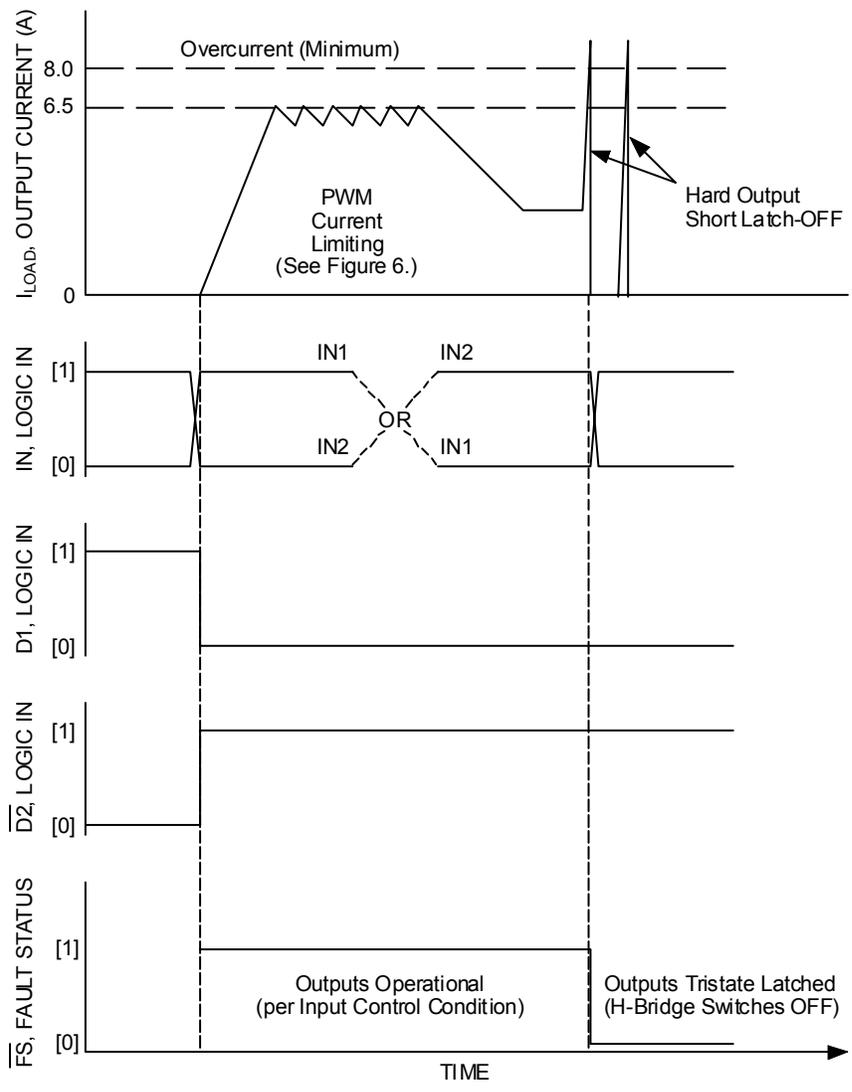
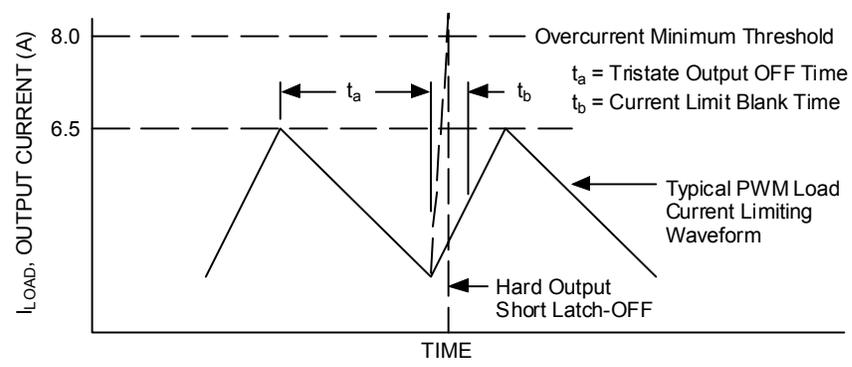
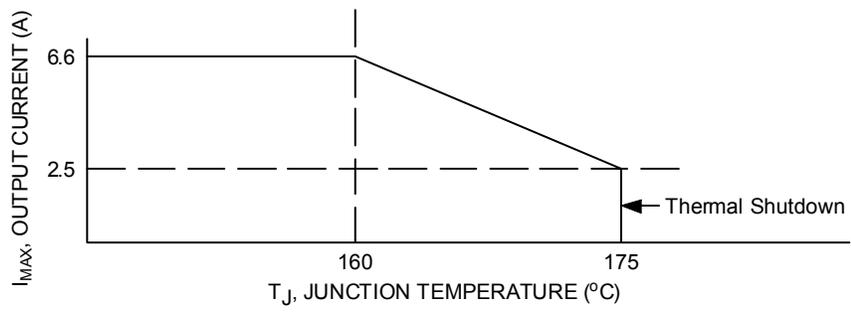

Figure 5. Output Load Current Limiting Versus Time
Figure 6. PWM Current Limiting Detail
Figure 7. Maximum Output Current Limiting Versus Temperature
- Increasing output currents will become limited at 6.5 A. Hard shorts will breach the 6.5 A limit, forcing the output into an immediate tristate latch-OFF. See Figure 5 and Figure 6. Output current limiting will cause junction temperatures to rise. A junction temperature above 160°C will cause the output current limit to progressively "fold-back" or decrease to 2.5 A typical at 175°C where thermal latch-OFF will occur. See Figure 7.
A disable timer (time t_b) incorporated to detect currents that are higher than current limit is activated at each output activation to facilitate detecting hard output short conditions. See Figure 6.
The maximum current flow under normal operating conditions is limited to I_{MAX} (6.0 to 8.5 A). When the maximum current value is reached, the output stages are tristated for a fixed time (t_b) of 20 μ s typical. Depending on the time constant associated with the load characteristics, the output current decreases during the tristate duration until the next output ON cycle occurs. See Figure 6.
The PWM current limitation value is dependent upon the device junction temperature. When $-40^\circ\text{C} < T_J < 160^\circ\text{C}$, I_{MAX} is between 6.0 and 8.5 A. When T_J exceeds 160°C , the I_{MAX} current decreases linearly down to 2.5 A typical at 175°C typical (or where the device reaches T_{LIM}) and overtemperature shutdown occurs. See Figure 7. This feature allows the device to remain operational for a longer time but at a regressing output performance level at junction temperatures above 160°C .